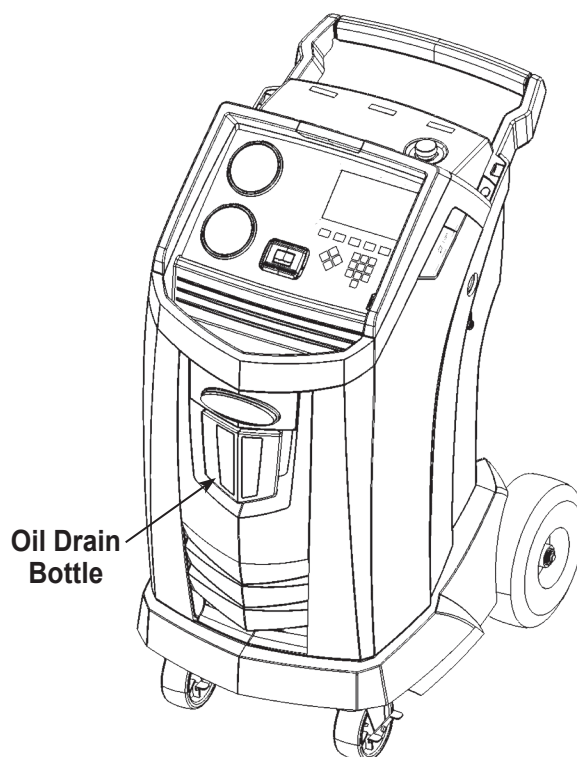

Figure 5
1. Empty the oil drain bottle before starting a recovery. Remove the oil drain bottle from the machine by pulling the bottle straight down—do not use a twisting or rocking motion. Reinstall the oil drain bottle. Refer to Figure 5.